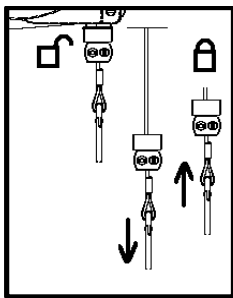

Fig. 07
- If no engagement, pull a little further, and let retract. [See - Fig. 07]